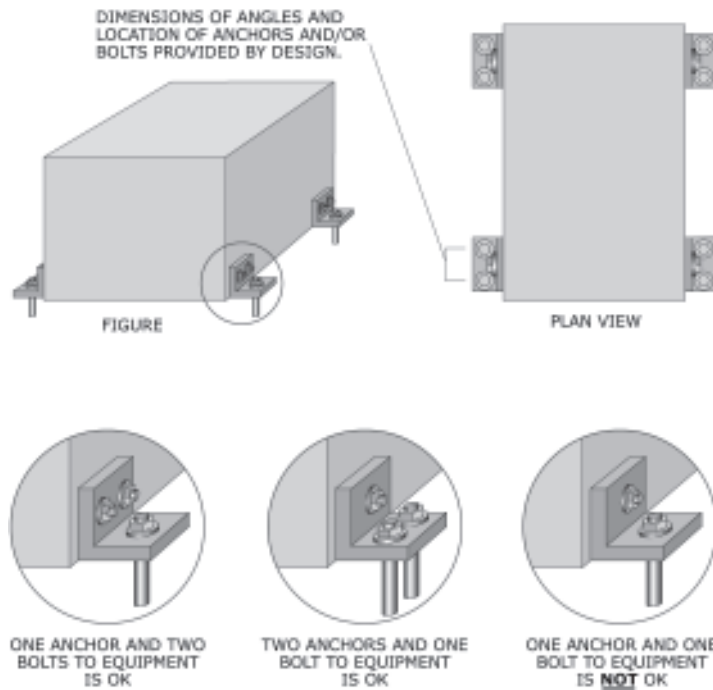

Figure 73: Four or more angles used to attach the equipment to the building.
- Four or more angles on each side of equipment bolted to the concrete floor/pad: Figure 73 (page 38).